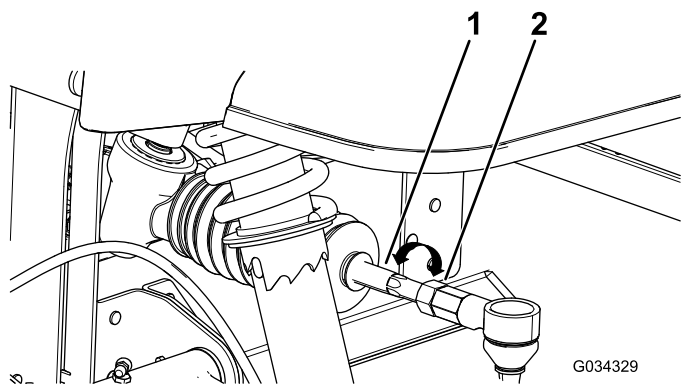

Figure 45
4. If the measurement does not fall within 0 +/- 3 mm (0 +/- 1/8 inch), loosen the jam nuts at the outer end of the tie rods (Figure 45).